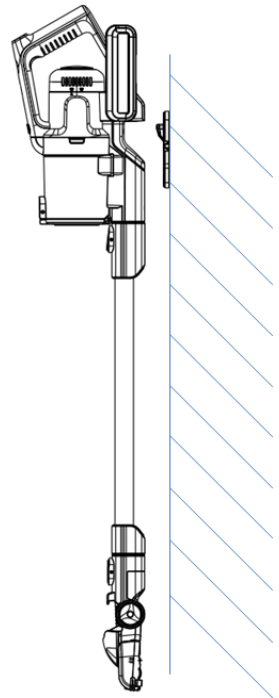

Fig. 7
6. Fit the nozzles onto their storage posts, and insert the assembled vacuum cleaner into the bracket (fig.7).